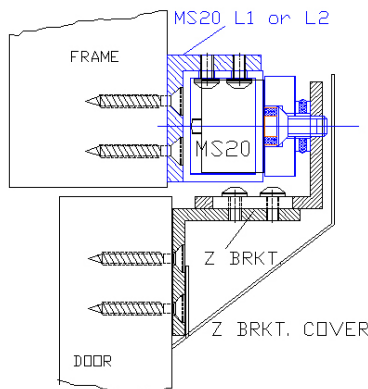

fig. 3 Inward opening doors require a **Z & L** bracket :-
- Use Z & L bracket as Fig. 3
Typical **Inward** opening door arrangement shown in Fig. 3 & 6